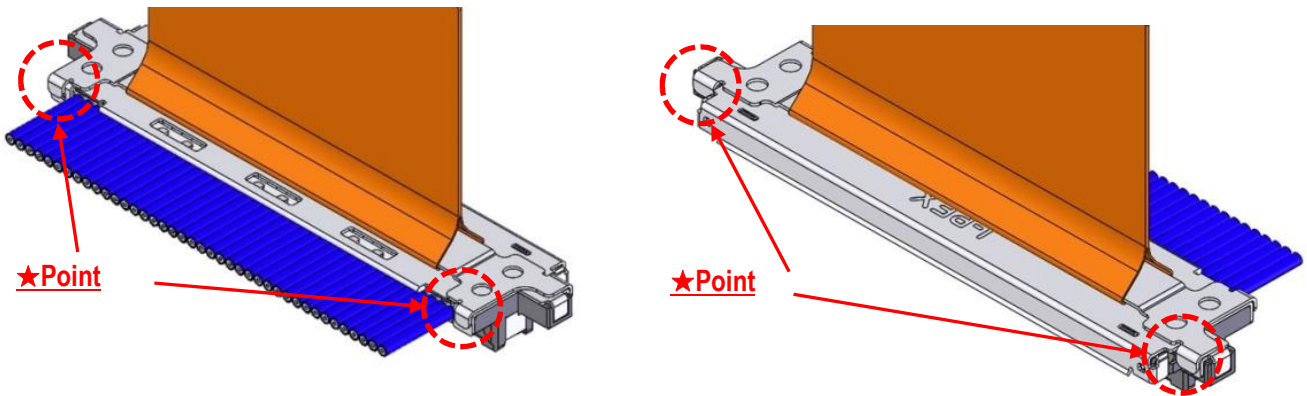

Fig.12 The Assembly Confirmation of Pull Tape Holder
- ② Make sure that pull tape holder is assembled properly.( Fig.12★Point)